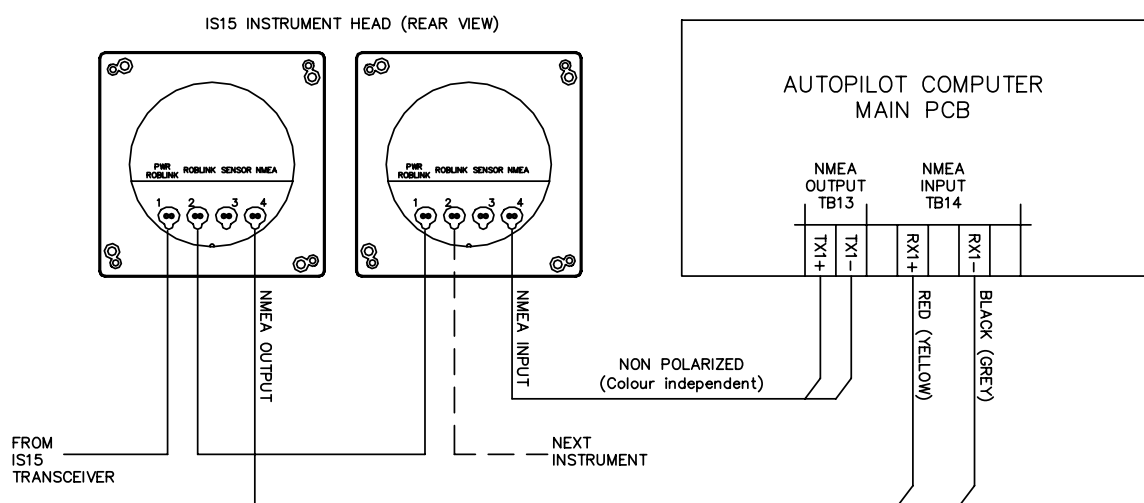

Figure 3-25 IS15 Instruments / Autopilot computer connection
The connection is made by a Roblink cable from the instrument NMEA socket (4) to the Autopilot Computer Main Board, Terminal RX1+ and RX1-. See Figure 3-25.
The connection is made by a Roblink cable from Autopilot computer Main Board, terminal TX1+ and TX1- to the instrument NMEA socket (4). See Figure 3-25.